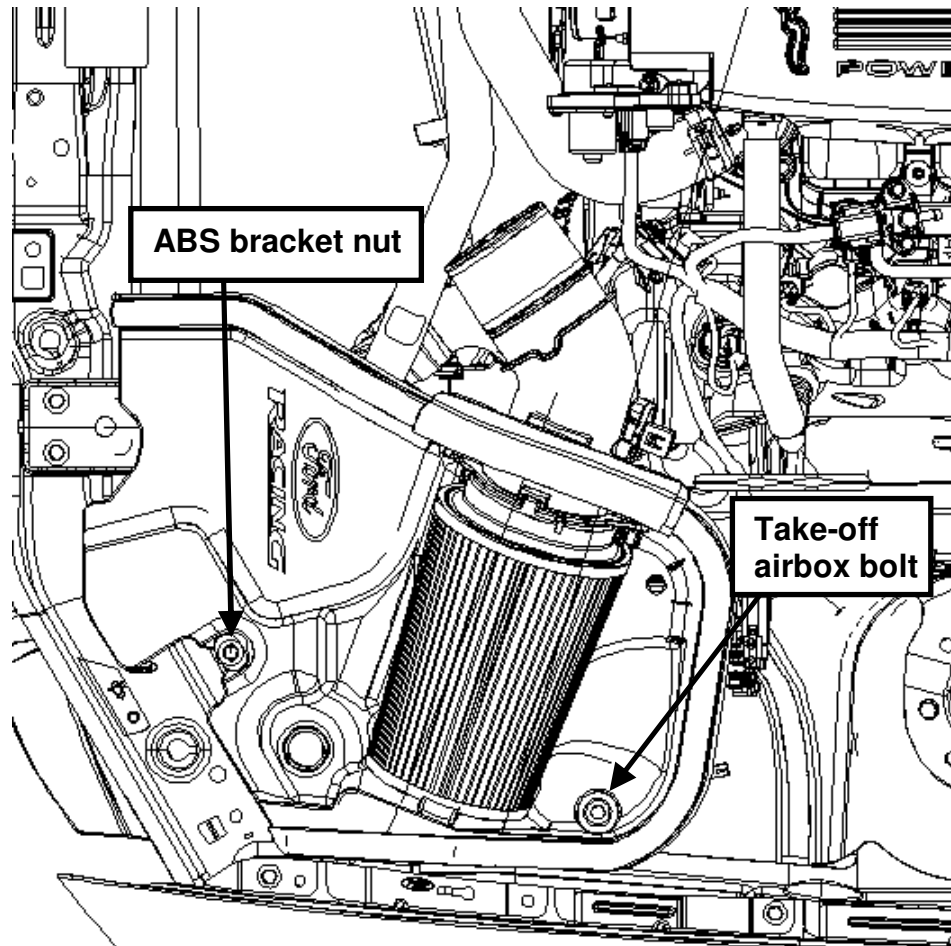

Fig. 6
- STEP 4:** Lower the complete airbox assembly into the vehicle using the two pegs as guides into the rubber grommets. Use the take-off airbox bolt and newly supplied nut to secure the airbox in the vehicle. Torque the M6 bolt to 8 Nm (70 lb-in), and the nut to 8 Nm (70 lb-in) (See Fig. 6).